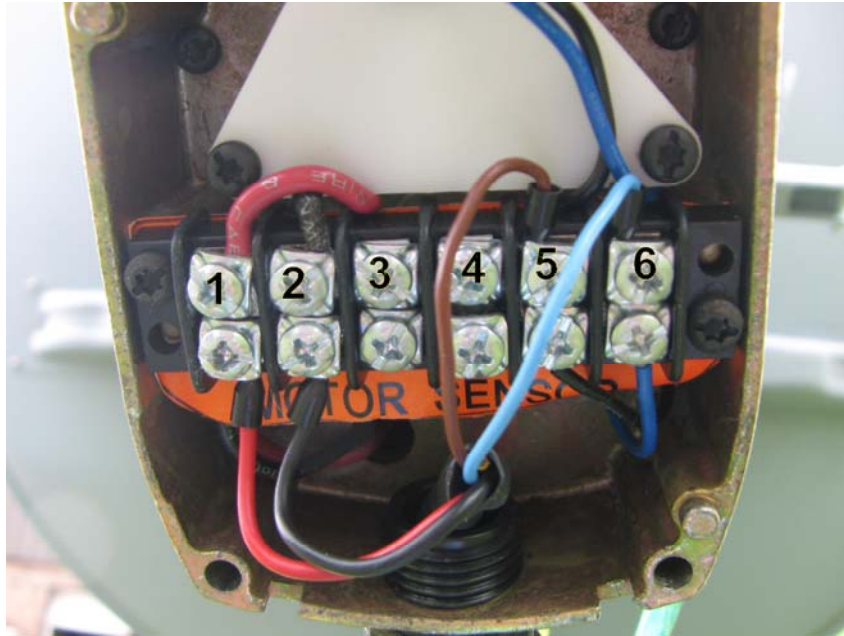

Figure 9 – Wiring Connection at Actuator
16. Run cable through hole in actuator head and insert conductors into screw terminals. Refer to Figure 9 and Table 2.